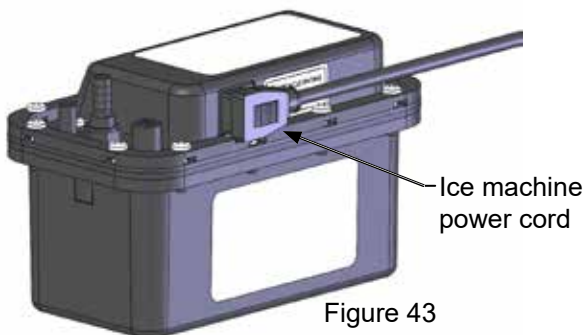

Figure 43
7. Disconnect the ice machine power cord from the drain pump (See Figure 43).